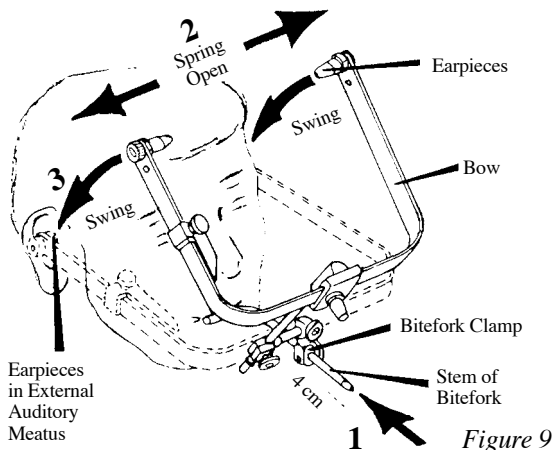

Figure 9
6. Figure 9 depicts the stem of the Bitefork entering the loose Bitefork Clamp. Slide this Clamp ① onto the stem perhaps 4 centimeters and then “Spring open” the Bow ② and swing it downward as ③ to allow the Earpieces to enter the the external auditory meatus.